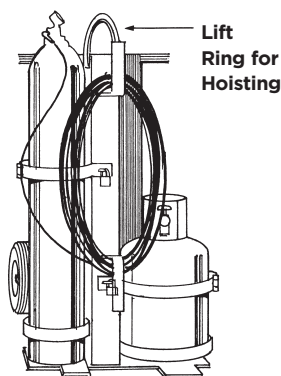

Figure 32-9: Oxypropane Welding Cart
- Cylinders must be in an upright position at all times, kept in a suitable cradle when in use, and preferably tied upright to prevent tipping over (Figure 32-9).